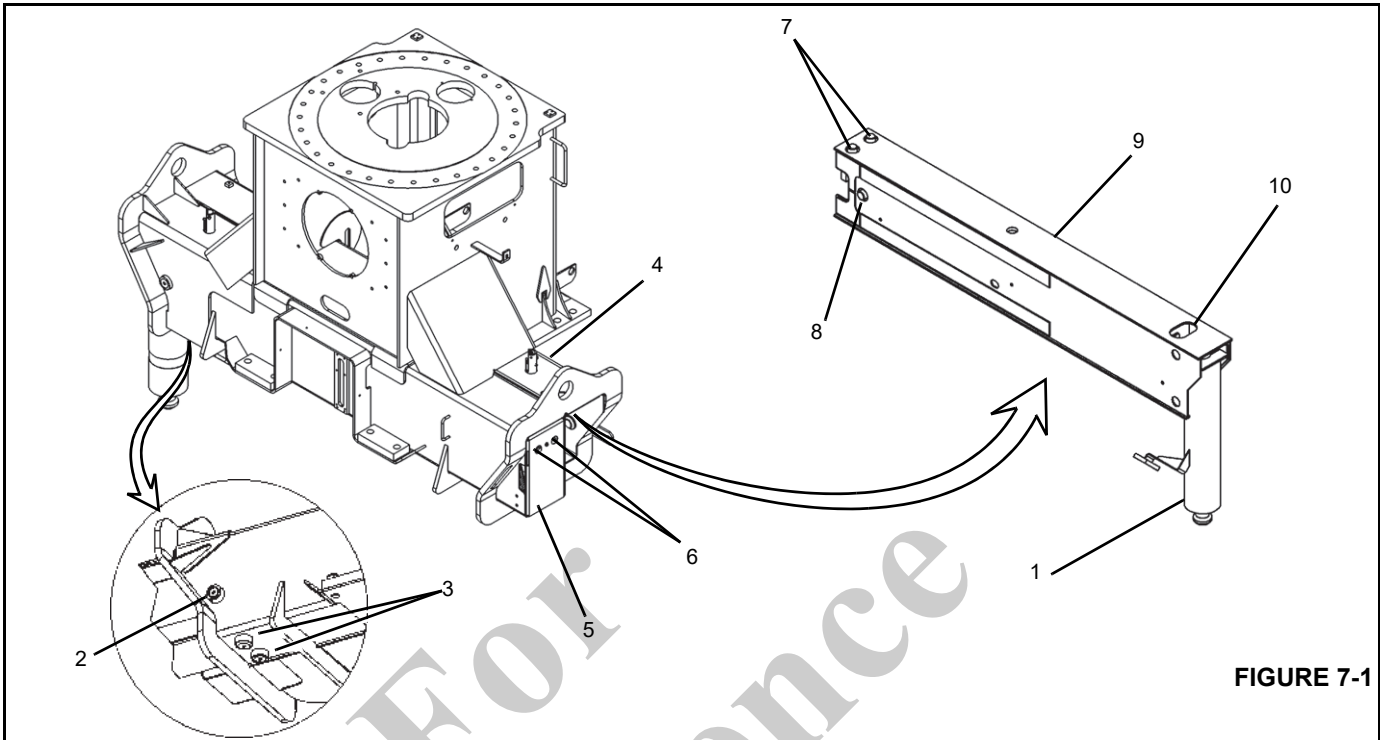

FIGURE 7-1
The front outrigger assembly (Figure 7-1) consists of the following:
7. Remove the wear pad set screws in the top of the outrigger beam and back off the top wear pads (7) (Figure 7-1).
3. Screw the bottom wear pads on the outrigger box (Figure 7-1) in and back off about 1/2 turn to maintain 3.3 mm (.13 inch) gap.
4. Screw the side wear pads on the outrigger box (Figure 7-1) in and back off about 1/2 turn.